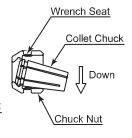
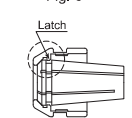

Fig. 6
Fig. 8
- The collet chuck and chuck nut are secured by a groove in the collet chuck and a flange in the chuck nut. To remove the collet chuck hold the chuck nut in one hand and push diagonally down on the collet chuck. The collet chuck should be released (Fig. 6).
Press the collet chuck in the chuck nut by positioning the collet chuck in the chuck nut and pressing down on flat surface (Fig. 6). Be sure to fully engage the latch inside the chuck nut into the groove on the collet chucks outer circumference area (Fig. 8).